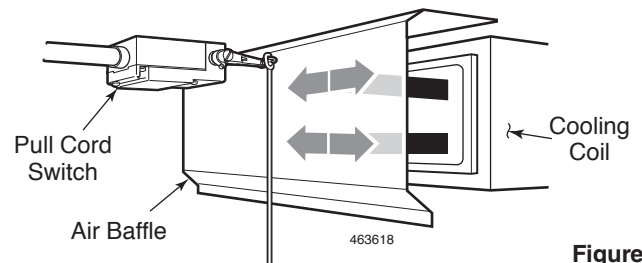

Figure 22
1. Do not mount the pull cord switch in the air flow of the coils. Air flow will move the cord and activate the switch. If the pull cord switch must be mounted in front of the coils, provide an air baffle (by others) to prevent icing of the switch. The air baffle must be of adequate size to protect the pull cord itself, but not obstruct function of the coils. Consult the cold storage contractor. See Figure 22.